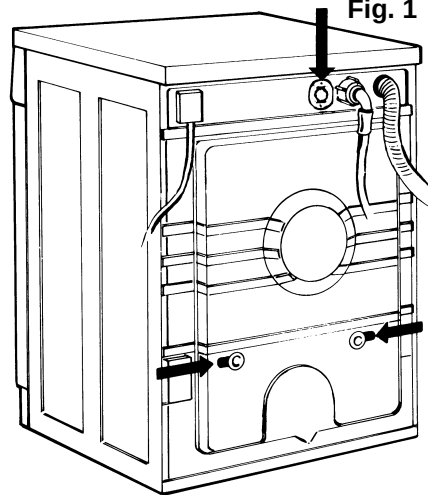

Fig. 2
1. Slacken the four bolts with the spanner supplied (figure 2).